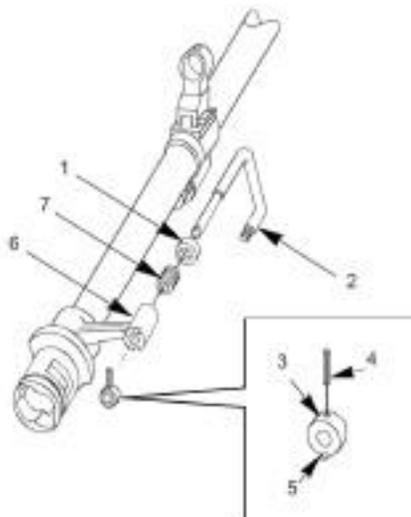

Figure 21. Barrel Assembly, Collar, Spring Pin, Bushing, Spring Handle
10. Place collar (Figure 21, Item 3) on hard surface with lug (Figure 21, Item 5) down and start spring pin (Figure 21, Item 4) into collar (Figure 21, Item 3) being careful not to allow spring to protrude into center hole collar (Figure 21, Item 3). Install bushing (Figure 21, Item 1) and spring (Figure 21, Item 7) onto handle (Figure 21, Item 2). In the folded down position along side of receiver reinstall into handle bracket. Install collar (Figure 21, Item 3) onto handle (Figure 21, Item 2) with lug (Figure 21, Item 5) facing handle bracket (Figure 21, Item 6) and align hole in collar (Figure 21, Item 3) with hole in handle (Figure 21, Item 2). Drive in spring pin (Figure 21, Item 4) until flush with collar (Figure 21, Item 3).